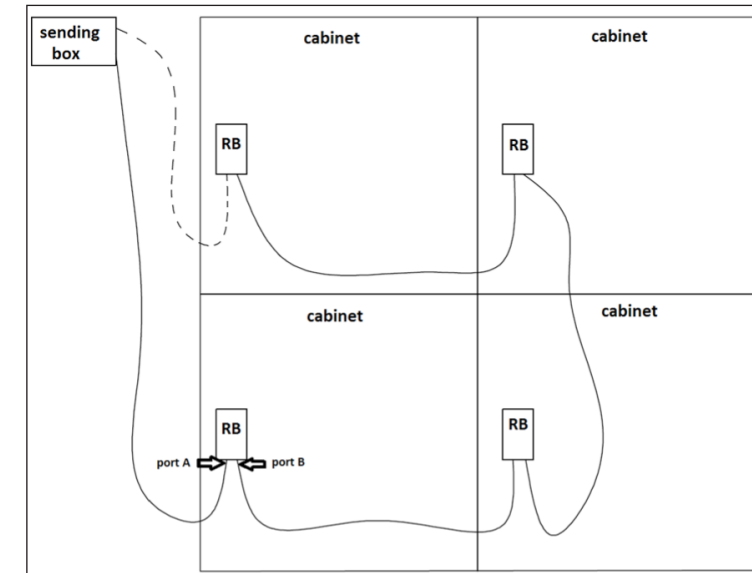

Figure 27: Four Cabinets' Signal Connection
3. Refer to **Figure 27** for four cabinet connections.